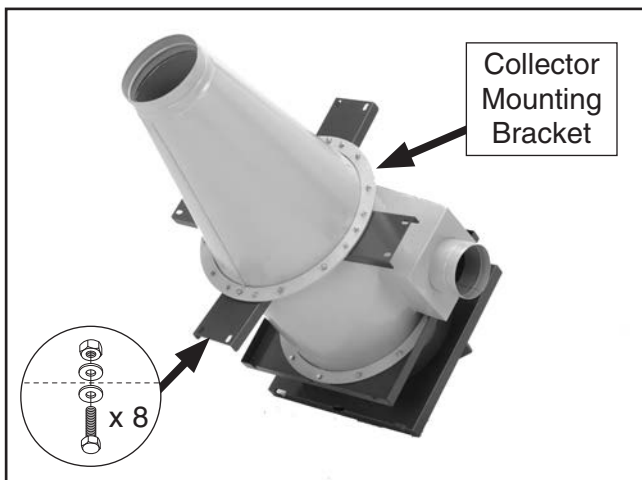

Figure 11. Collector mounting brackets attached to intake assembly.
- Attach (4) collector mounting brackets to intake assembly, as shown in **Figure 11**, using (8) $\frac{5}{16}$ "-18 x 1" hex bolts, (16) flat washers, and (8) lock nuts.